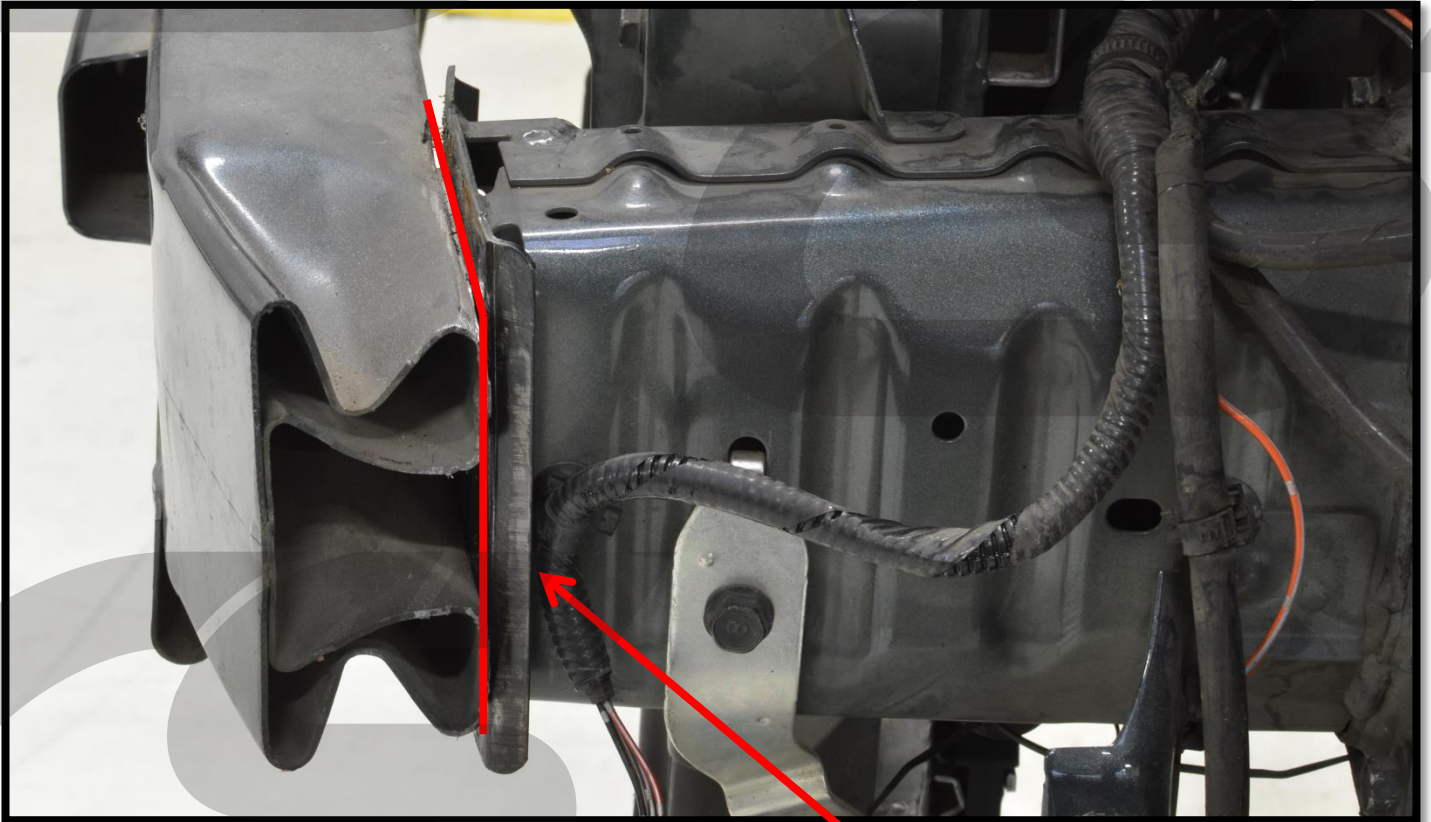
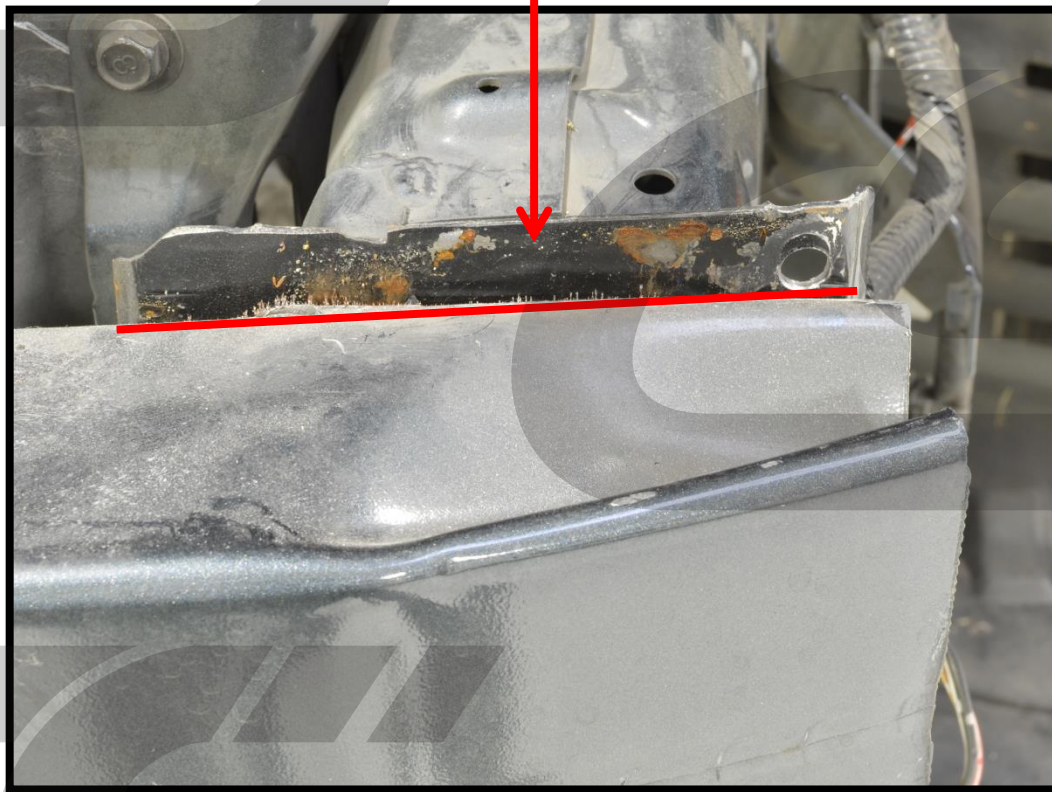

Figure 5a
Figure 5b
- a) Using a reciprocating saw (sawzall) with a metal cutting blade, cut through the welds that hold the OE crashbar to the framerails. Cut lines shown with red lines in Figure 5a below and in Figure 5b on the next page.